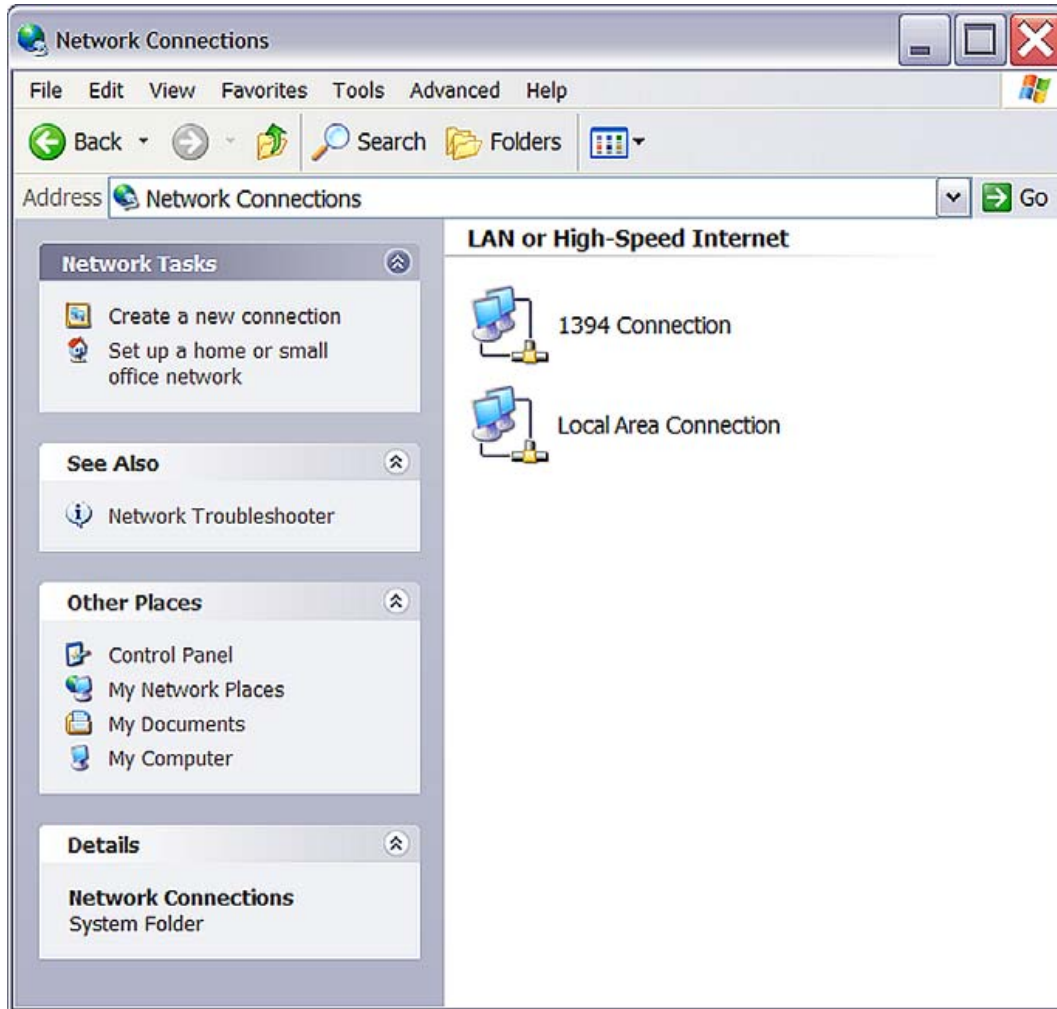

Figure 6. The Network Dialog
1. Open the Windows Control Panel and double-click the Network and Internet Connections icon. The Network Connections dialog box appears (see Figure 6).